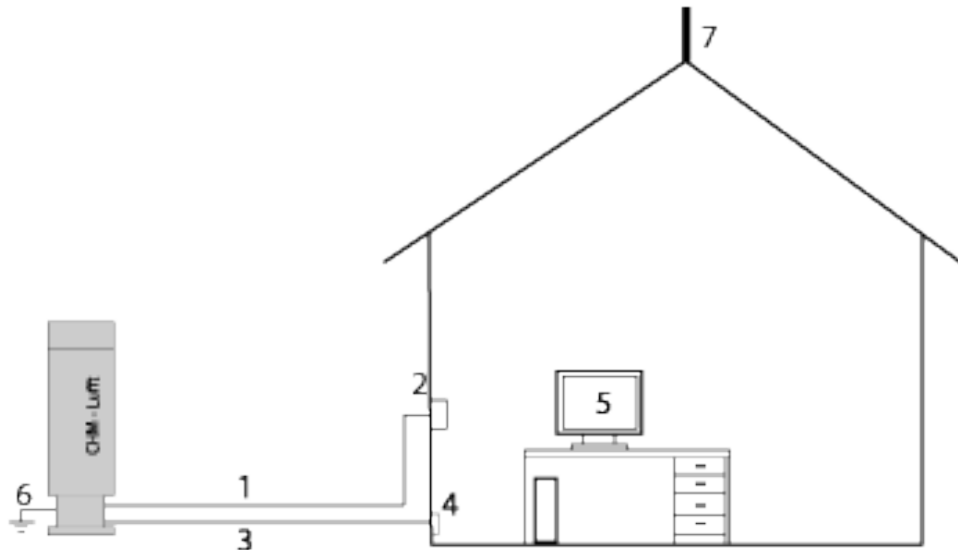

Figure 10 Schematic sketch of the electrical installation.
Figure 10 shows a schematic sketch of the electrical installation of the CHM 15k. The power supply (1) to the device must be connected via an external mains switch (2) which needs to be easily accessible to cut the power to the device when required. It must be marked as belonging to the CHM 15k and two pre-fuse 10A gG time-lag must be used. The connection box should be installed at a distance of < 3 m. An external lightning conductor (7) must be installed to protect the device from direct lightning strikes. All connections to the device must be made according to the respective country-specific regulations.